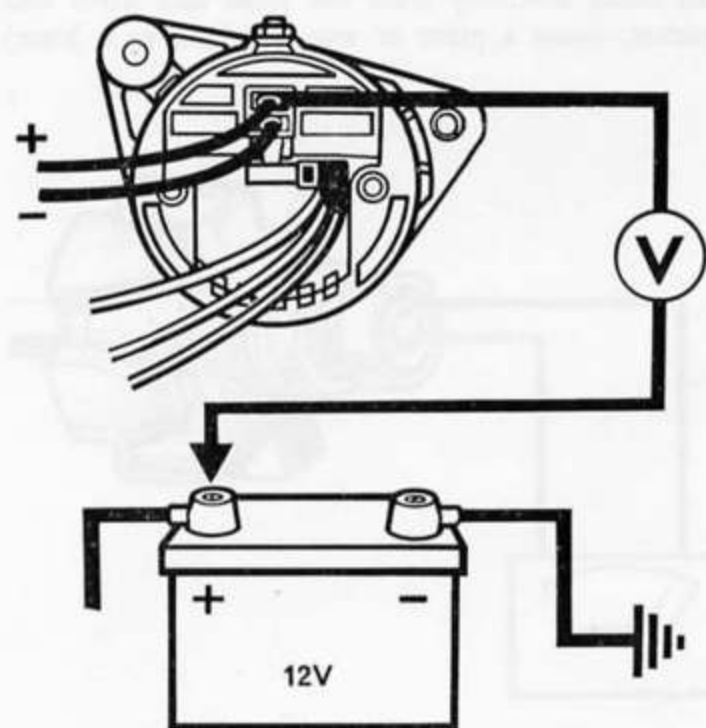

Fig. 56
- (a) Connect the voltmeter red lead to the alternator main (+) terminal and the black lead to battery (+) terminal, see Fig. 56.